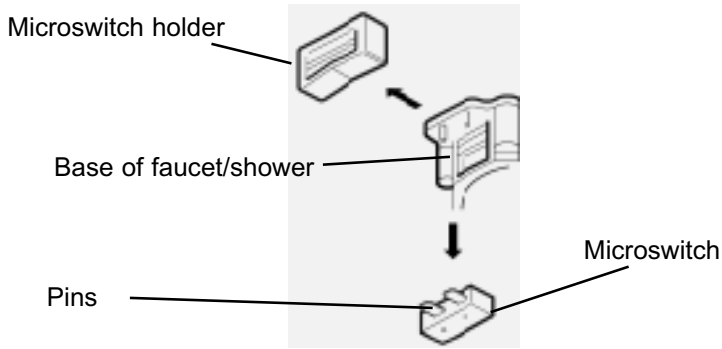

Fig. 4
- (v) The micro-switch should slide off the two retaining pins. Be careful not to break the pins off (see Fig. 4).